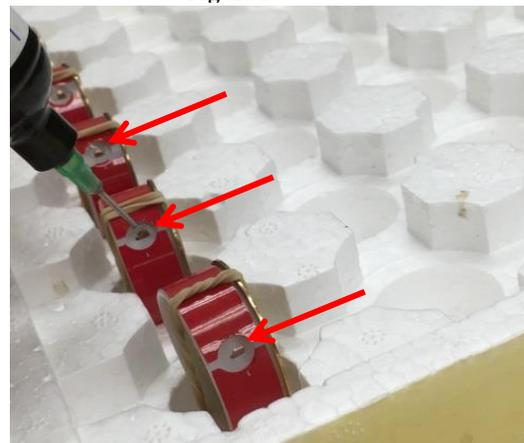

Figure 7
- 3.5 Set the assemblies upright and add a small drop of adhesive to each plastic ring above the hook allowing the hook to be encapsulated. (Figure 7)